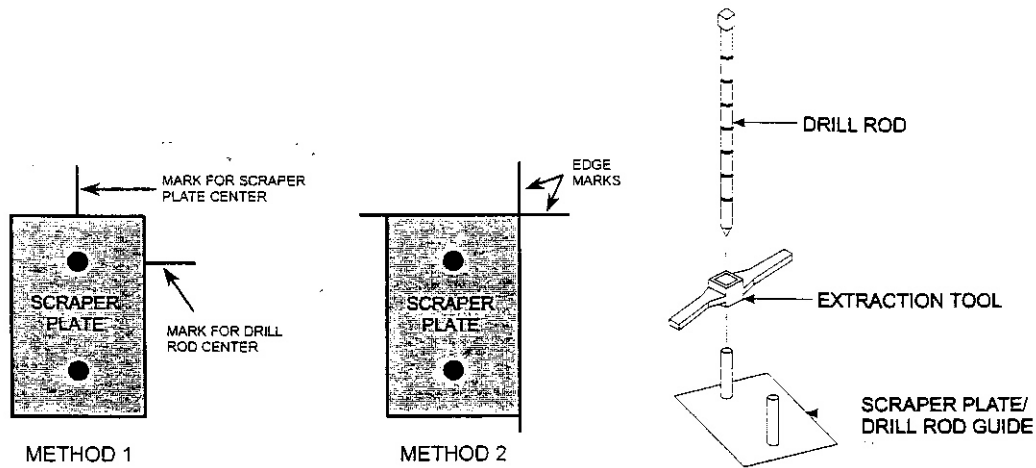

Figure 1 Scraper Plate, Drill Rod, and Extraction Tool (Troxler Nuclear Gauge Operation Manual)
14. Mark (by scribing lines in the test surface) for the center of scraper plate and center of the drill rod (as shown in Figure 1).